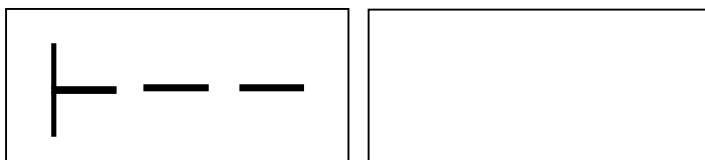

**Fig. F3.12 Application of adhesive weights on the Distance/Diameter**
2. Apply the weight shown on the left display (internal weight) on the Distance/Diameter sensor as seen in figure F3.12;